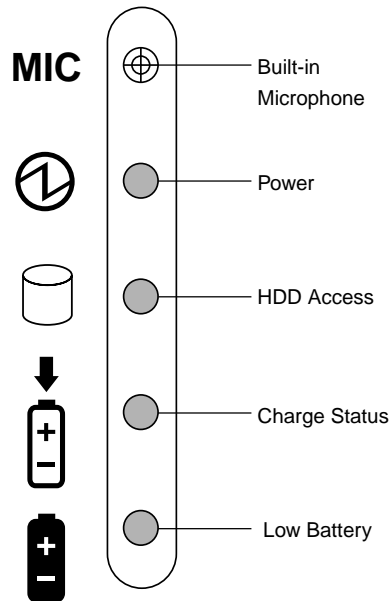

Figure 2-24. Status Lights on the Pen Tablet
3. Confirm that external power is supplied to the pen tablet (via the AC adapter). The Charge Status light on the pen tablet should turn on either momentarily or continuously (depending on the pen tablet's battery charge state) when the pen tablet is inserted into the cradle. See Figure 2-24 to locate the Charge Status light on the pen tablet.
All connectivity peripherals (except for the portable port expander) supply power to the pen tablet when the AC adapter is properly connected. To confirm that external power is supplied, place the pen tablet in the connectivity peripheral and observe the Charge Status light on the pen tablet. The Charge Status light should either flash once or turn on continuously (depending on the percent of full charge in the pen tablet's battery pack) when the pen tablet is initially inserted in the connectivity peripheral. Figure 2-24 shows the status lights on the pen tablet.